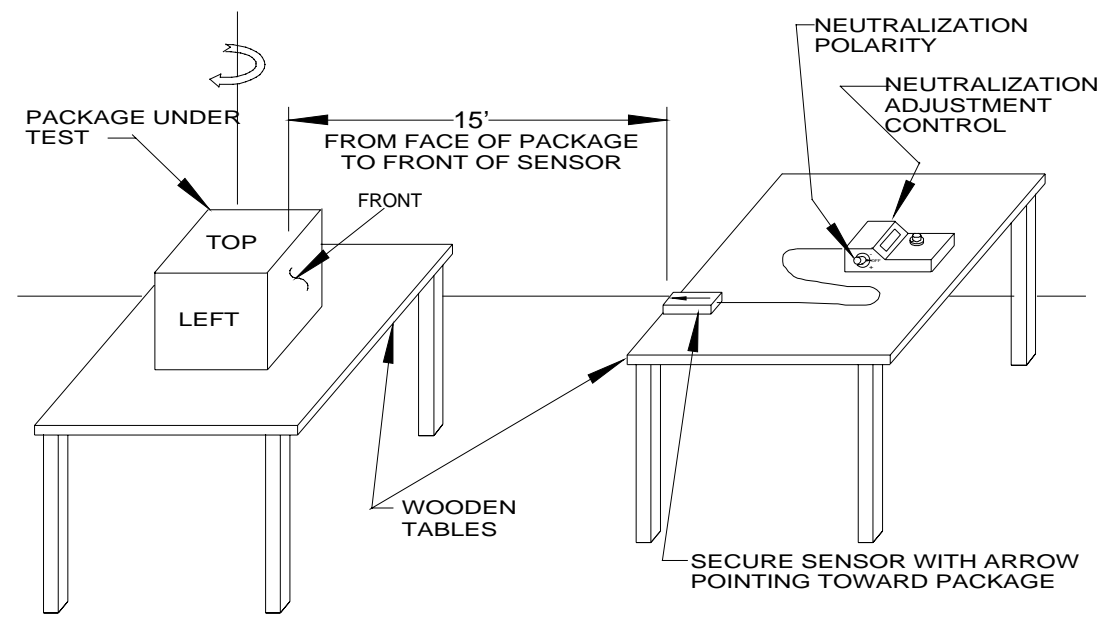

FIG 2 - STARTING POSITION
1. Set up two non-magnetic (e.g., wooden) tables of the same height in line with one another and spaced 15 feet apart as shown in Fig. 2.
2. Bring the package to be tested into the site. Place the package on the table opposite the table containing the probe so that one of its sides is facing the  $\mu$ MAG-01N probe and is 15 feet from the front edge of the probe (see Fig. 2).